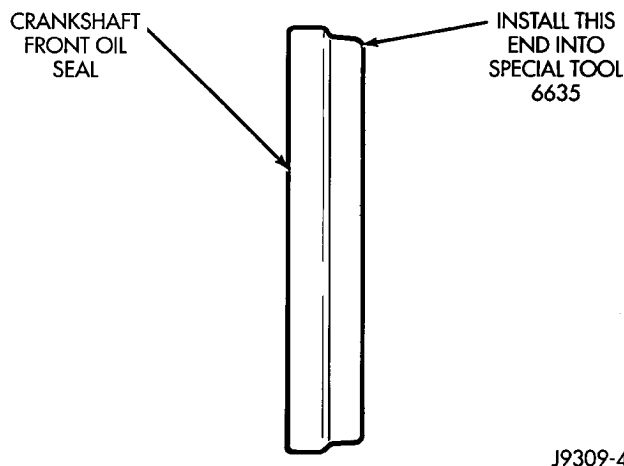

Fig. 42 Placing Oil Seal on Installation Tool 6635
(1) Disconnect the negative cable from the battery.
(2) Remove vibration damper.
(3) If front seal is suspected of leaking, check front oil seal alignment to crankshaft. The seal installation/alignment tool 6635, should fit with minimum interference. If tool does not fit, the cover must be removed and installed properly.
(4) Place a suitable tool behind the lips of the oil seal to pry the oil seal outward. Be careful not to damage the crankshaft seal bore of cover.
(5) Place the smaller diameter of the oil seal over Front Oil Seal Installation Tool 6635 (Fig. 42). Seat the oil seal in the groove of the tool.